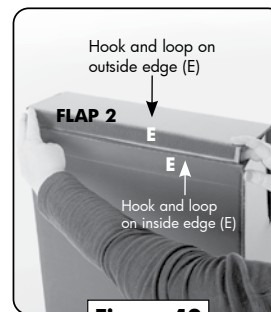

Figure 12
**11** You should now be at the top and ready to close the structure. Bend FLAP 2 outside edge E and insert into the structure. Attach the hook and loop material from outside edge E to the inside edge E. **See Figure 12.**
You should now be at the top and ready to close the structure. Bend FLAP 2 outside edge E and insert into the structure. Attach the hook and loop material from outside edge E to the inside edge E. **See Figure 12.**